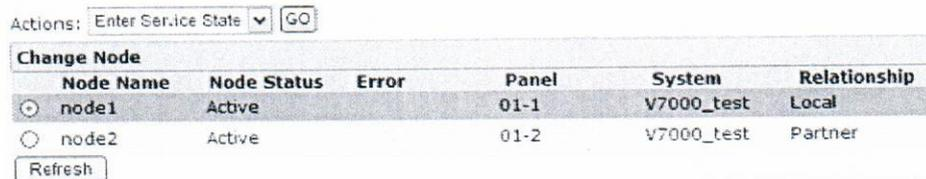

Figure 13 Enter Service Mode
- Check the radio button beside the “Node 1” entry and from the drop down menu box above, Titled “Actions” select “Enter Service Mode “ and then click on the “GO” button. (Figure 13)